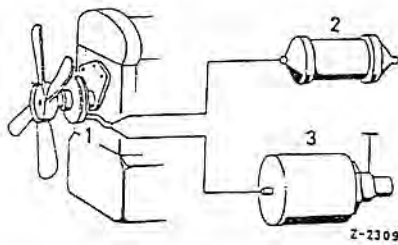

Fig. 20-10/2
2. Remove the front retainer ring from the fan shaft (1). Pull the fan hub (4) together with the clutch ring (6) and the insulating disk off the fan shaft by means of Puller Part No. 112 589 07 33 00 (Fig. 20-10/1). Before pulling off the fan hub remove the pressure piece from the puller.
3. Remove the retainer ring from the fan bracket (12) and take out the cover cap (13). Drain the oil from the fan bracket.
7. Reassembly is the reverse of the disassembly procedure (Fig. 20-10/1). Adjust the play "a" = 0.4–0.1 mm between the pulley and the clutch ring by means of the adjustment screw and the hexagon nut (15).